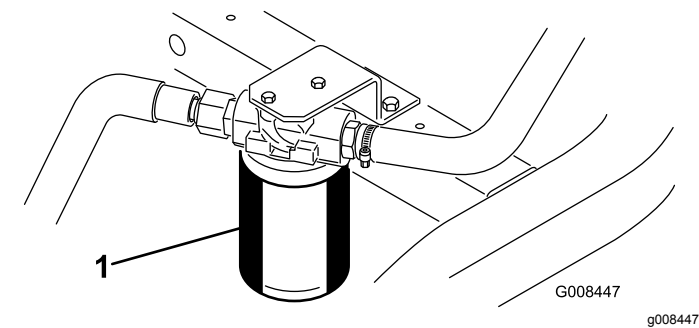

Figure 48
- 1. Clean the area around the filter mounting area (Figure 48). Place a drain pan under the filter and remove the filter.